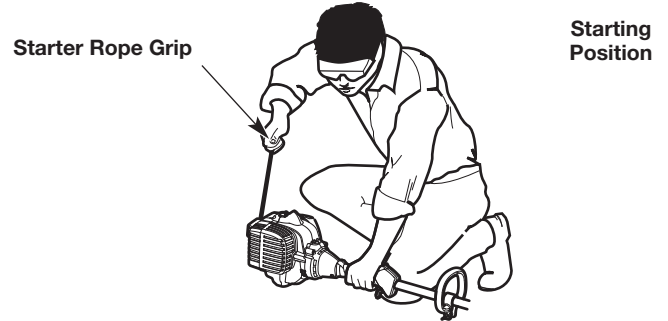

Fig. 16
WARNING: Avoid accidentally starting the unit. To avoid serious injury, the operator and the unit must be in a stable position when pulling the starter rope (Fig. 16).
5. **DO NOT** squeeze the throttle control. Crouch in the starting position (Fig. 16).
6. **DO NOT** squeeze the throttle control. Pull the starter rope with a controlled and steady motion until the unit starts (Fig. 16).